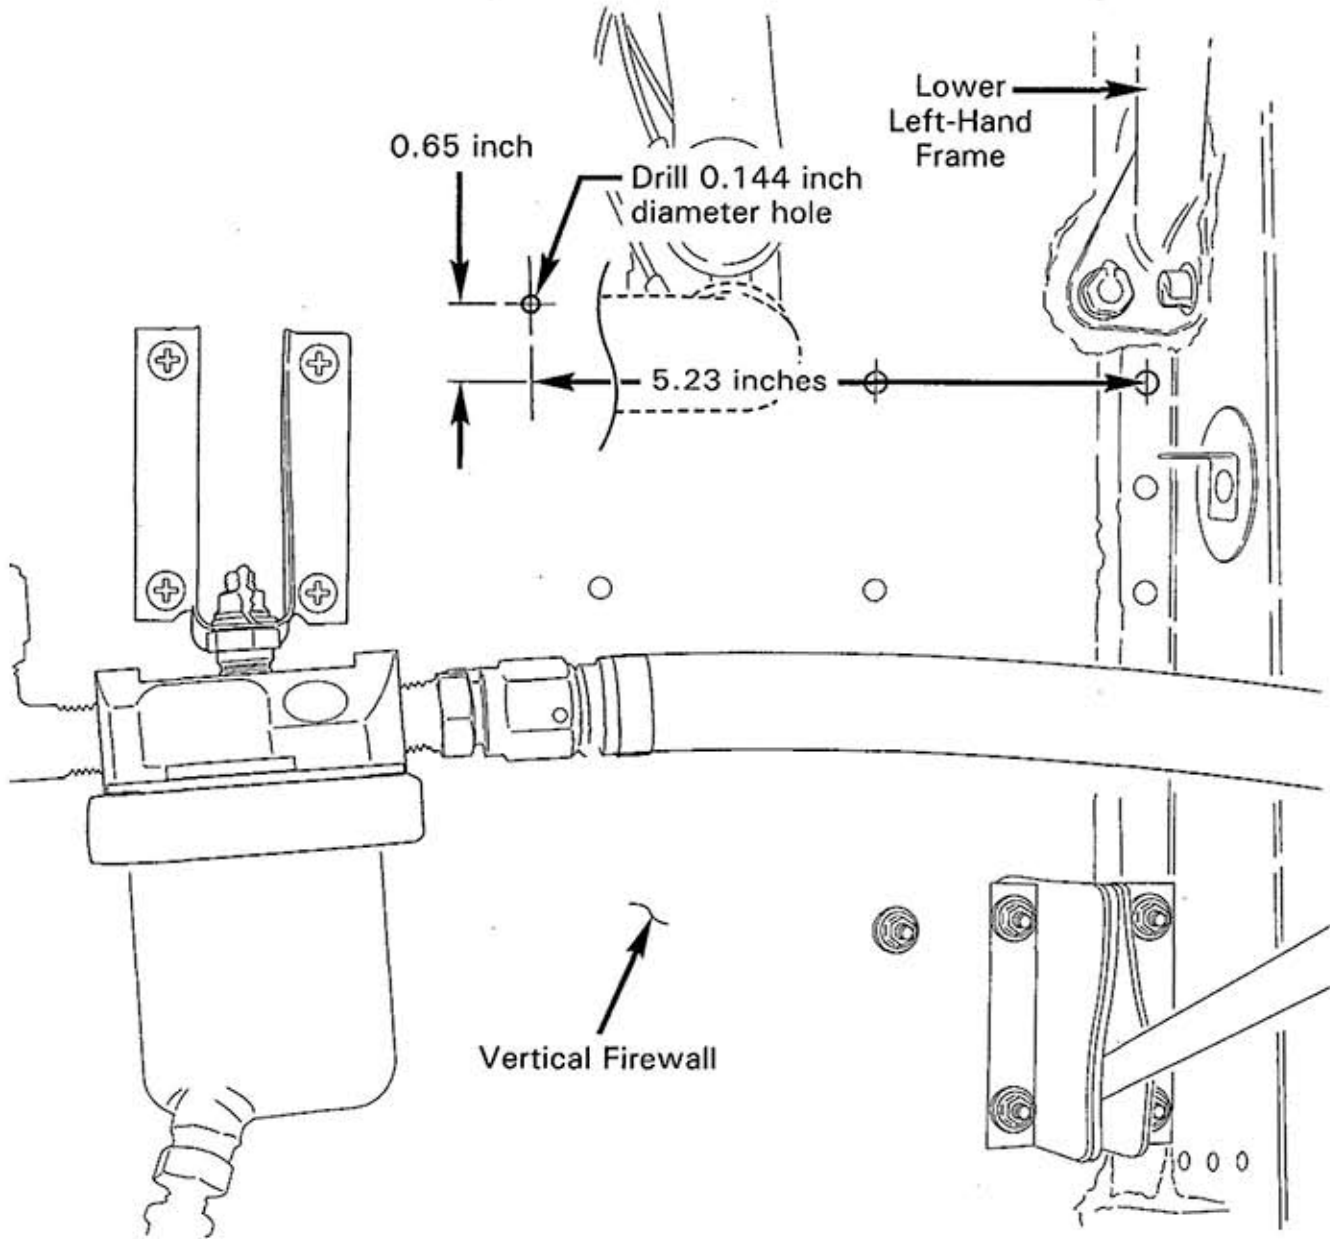
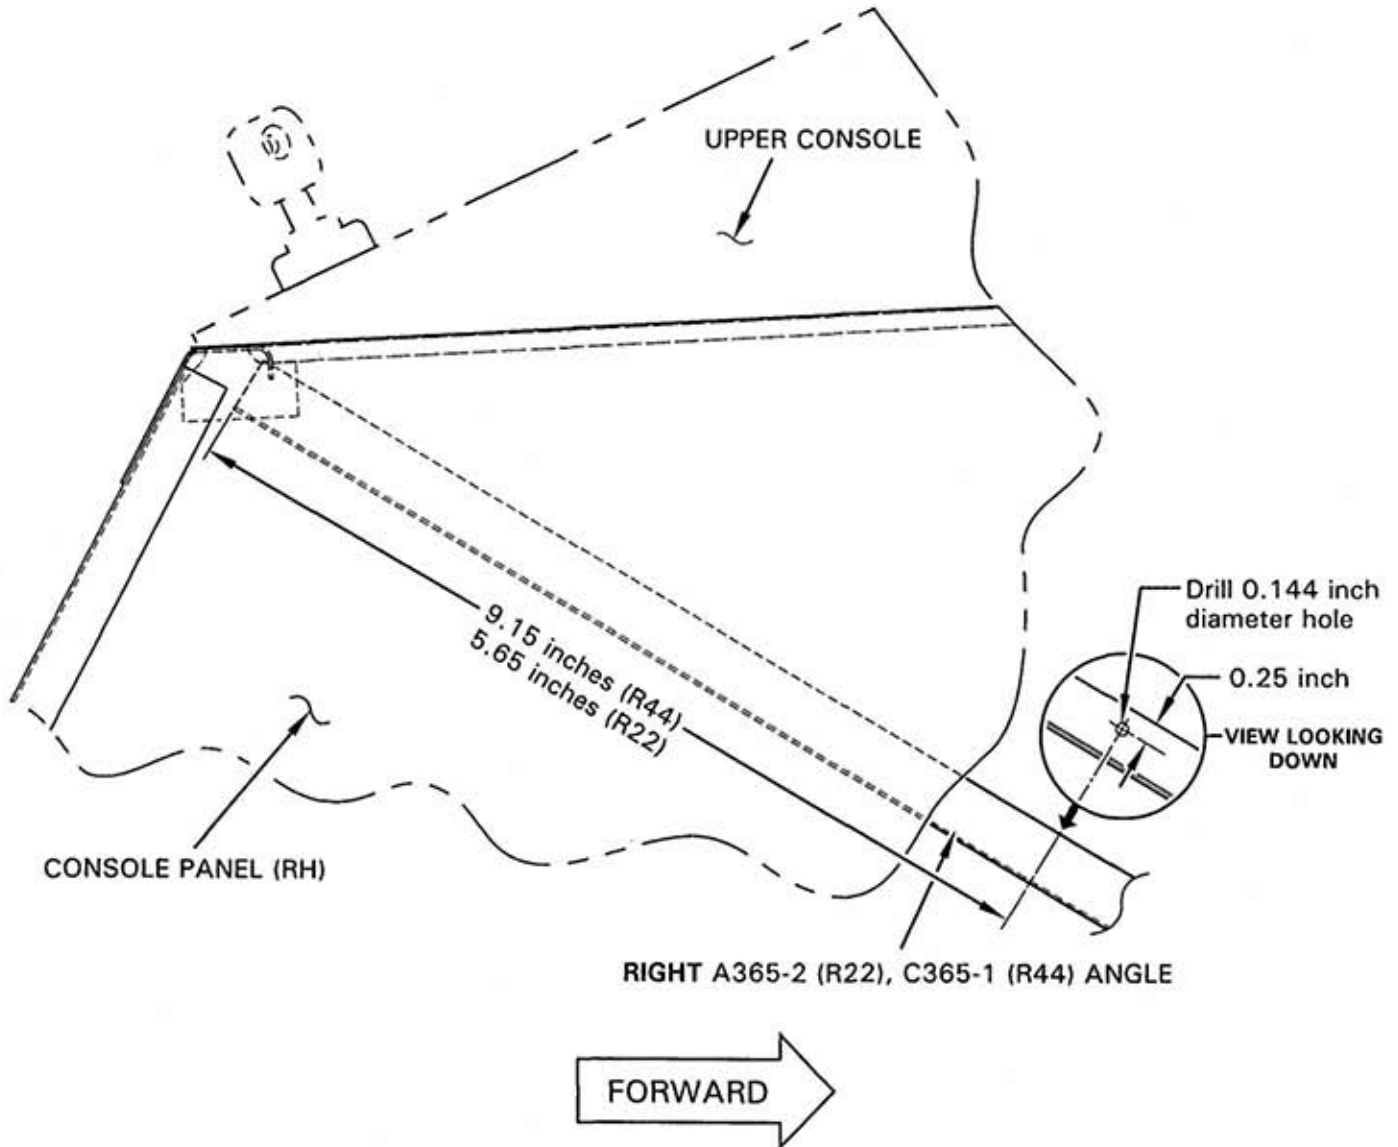

FIGURE 1 FUSE BLOCK HOLE LOCATION FOR R22 WITH AFT BATTERY
FIGURE 2 FUSE BLOCK HOLE LOCATION FOR R22/R44 WITH NOSE BATTERY
4. Refer to Figure 1 or Figure 2, as applicable. Lay out hole location on vertical stainless steel firewall. Using suitable (cobalt) bit, drill small diameter pilot hole, then increase hole diameter to 0.144-inch final size and deburr. Clean up debris.